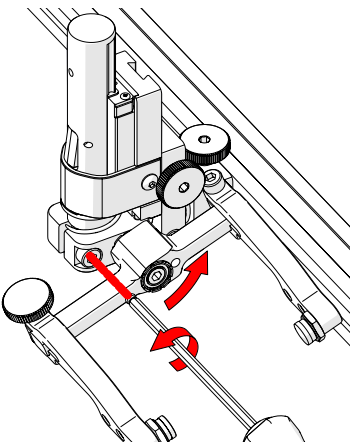

Fig. 122 - Loosen 3 mm screw
2. Using the supplied 3 mm hex driver loosen the transverse adjustment screw (*Fig. 122*) and rotate the yoke about the vertical shaft achieving the desired angle.